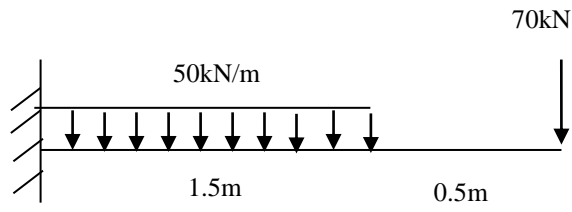

Figure-1
- (b) Draw SF & BM diagrams for the beam shown in figure-1. **09**